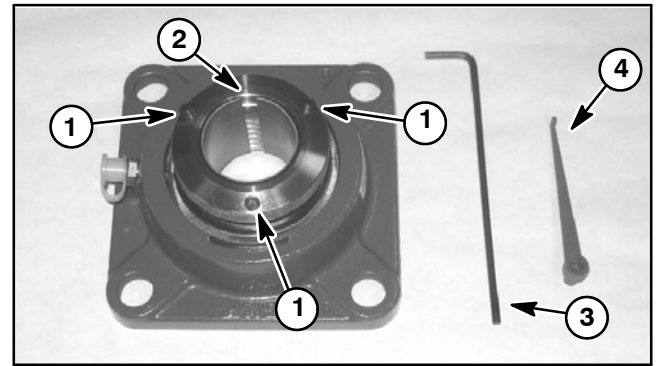

Figure 9
4. Tighten three (3) set screws in bearing so that they are finger tight. Bearing should slide on shaft with some resistance.
6. Position the bearing collar so that a set screw is directly opposite the split in the sleeve (Fig. 9). Tighten three (3) bearing set screws using the following steps:
**NOTE:** A replacement flange bearing includes an allen wrench and torque indicator that can be used to properly torque bearing set screws (Fig. 9). When tightening set screws, the torque is correct when the long end of the allen wrench contacts the torque indicator.